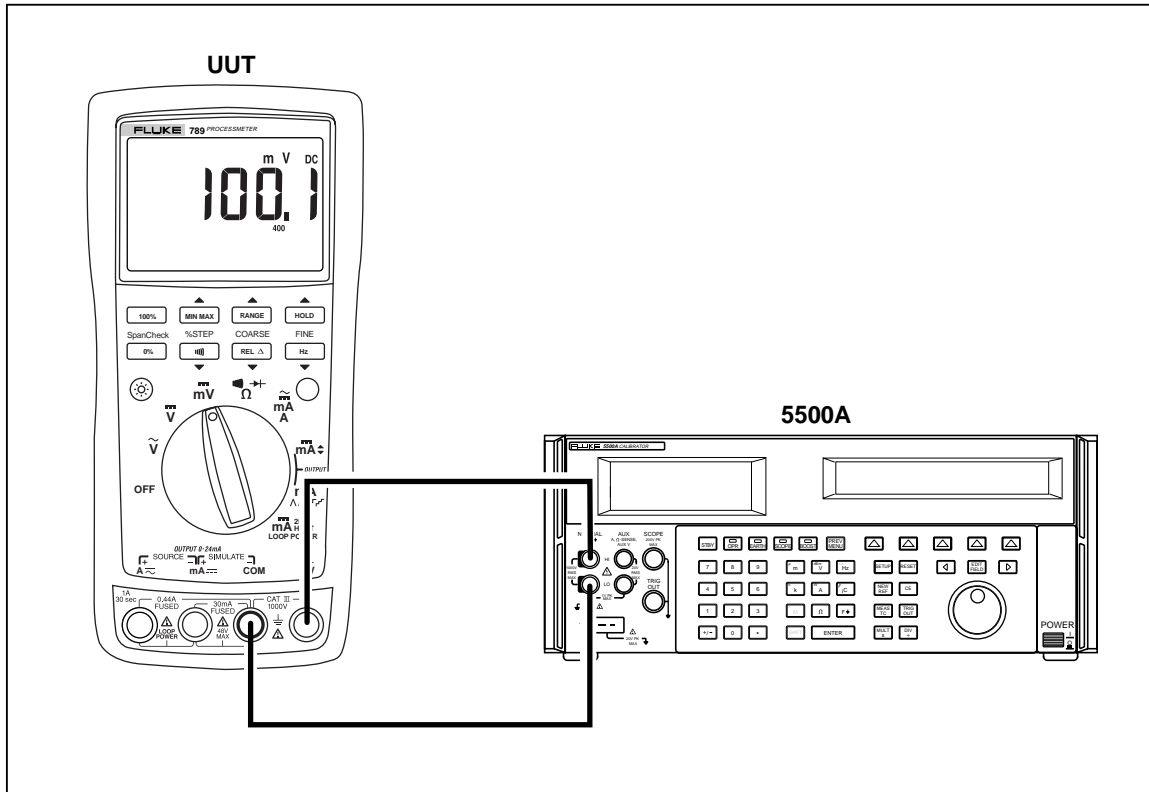

Figure 8. DC mV Measurement Test Connections
3. Connect the calibrator to the **COM** and  $\overline{\Omega^+V}$  terminals on the UUT as shown in Figure 8.